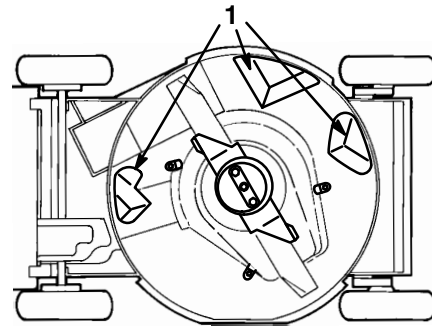

Figure 31
To ensure best performance, keep the underside of the mower housing clean. Be especially careful to keep the kickers free of debris (Fig. 31).
3. Tip the mower on its left side (Fig. 31).